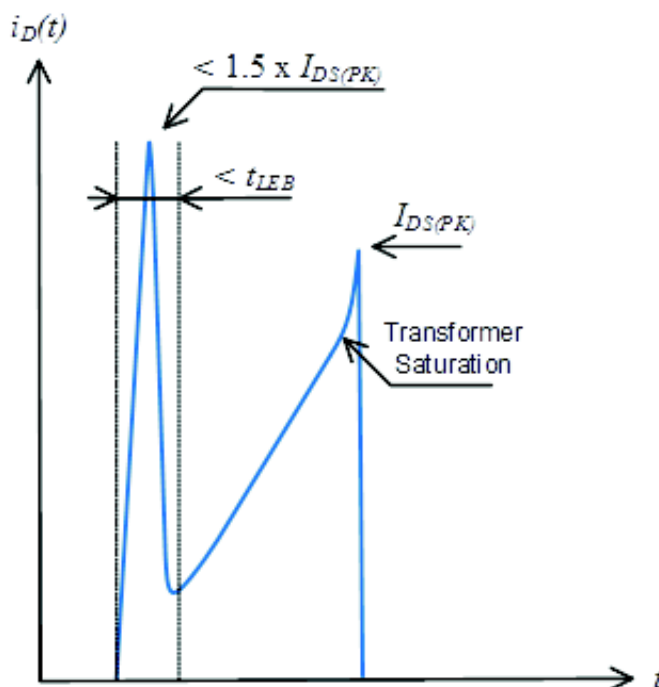

Figure 4. Spike Limits
3. Maximum drain current $I_{DS(PK)}$ is obtained when the transformer saturates. It should not be mixed with short pulses that can be seen at turn on. Figure 4 below provides spike limits the device can tolerate.